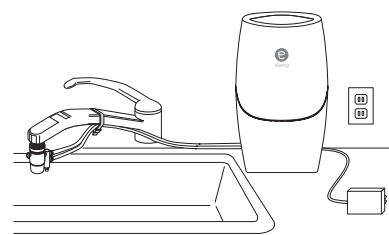

Fig. 10
1. **Position** the **eSpring** Water Purifier in a desired location where the tubing from the faucet reaches the Water Purifier and the Power Adapter reaches an outlet with continuous power (Fig. 10).